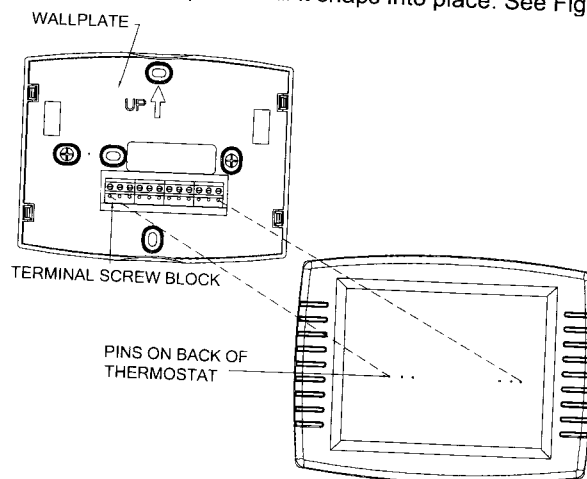

Fig. 19. Mount thermostat to wallplate.
1. Align the terminal screw blocks with the pins on the back of the thermostat. Push the thermostat straight onto the wallplate until it snaps into place. See Fig 19.